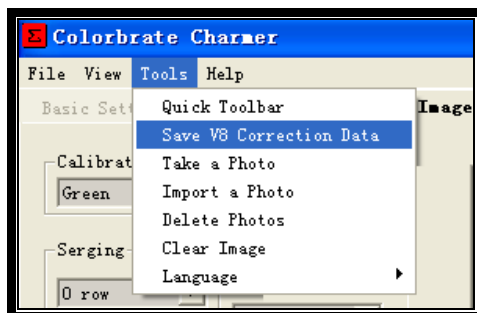

Fig.3-36
Step33: Click “Tools” → “ save V8 correction date ” as shown in fig. 3-36, then choose a path to save correction data.